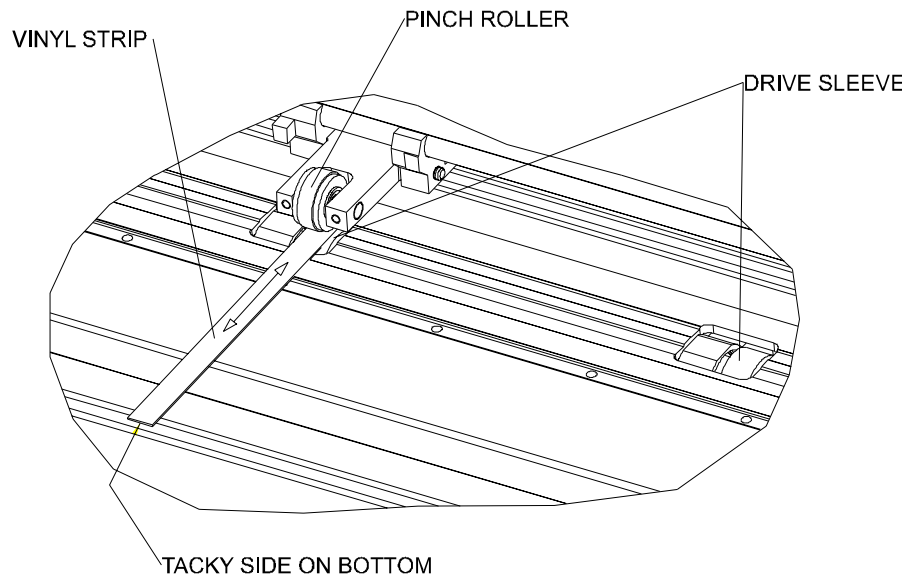

FIGURE 3-1:
3. Remove the backing from a piece of vinyl. Place the vinyl between a pinch roller and drive sleeve with the tacky side down. Raise the pinch roller lever to lower the pinch rollers. See Figure 3-1 below.